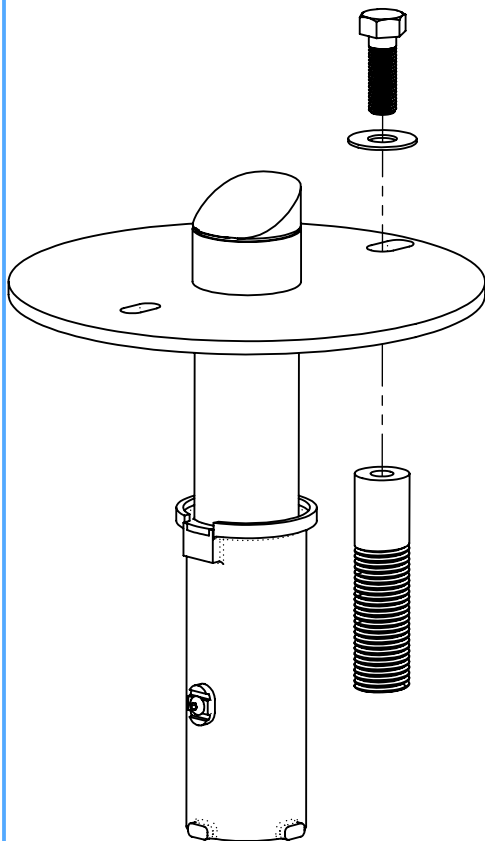

FIGURE 02
- THE SEAT MUST BE SUBMERGED AT LEAST 18 INCHES INTO THE WATER. THE LIFT SHOULD BE INSTALLED AT A LOCATION WITH 42-48 INCHES OF DEPTH, DECK TO POOL FLOOR. (SEE FIGURE 02)